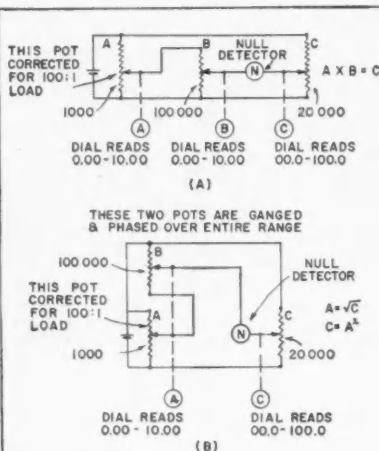

Fig. 1—Electronic slide rule for multiplication (A) and for squares and square roots (B).
Electronic slide rule. (Fig. 1) was designed to illustrate this correction method in an actual application. It is not possible without two features found only in Borg's 900 Series, accurate load correction over the entire range of 0 to 100%, in pot A, and absolute linearity on all pots. The ganged assembly of pots A and B shown in (B) phased over entire range, illustrates another valuable feature of the Borg 900 Series Micropot Potentiometer.